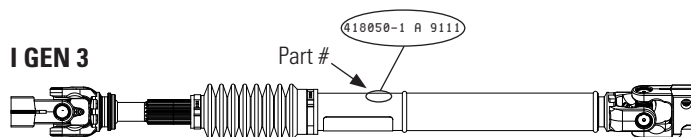
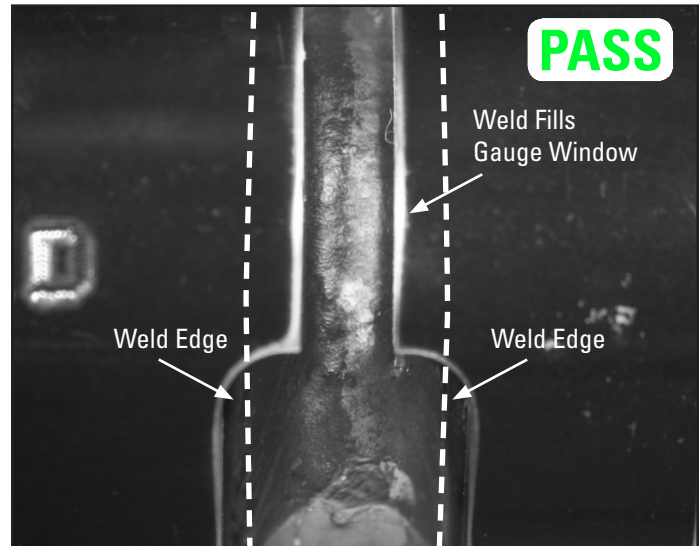

Figure 1
Figure 4
First digit indicates the year and the last three digits indicate the day of that year. **Figure 1**
2. Visually inspect the position of the weld bead in reference to the small gauge window (3/16" width). The full circumference of weld seam must be inspected in the gauge window. **Figure 4**
- 2a. **Part Passes** if the weld bead completely fills the narrow gauge window **Figure 4**. Mark the parts that pass inspection with yellow or white paint mark adjacent to the part number stamp. **Figure 1**